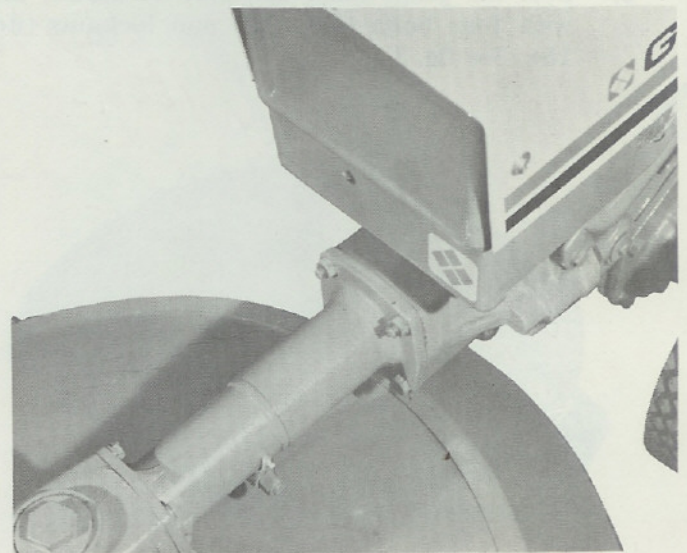

fig. 8
1. The mower attaches to the tractor with 2 bolts and 2 nuts as shown in fig. 8. Do not damage the threaded studs.